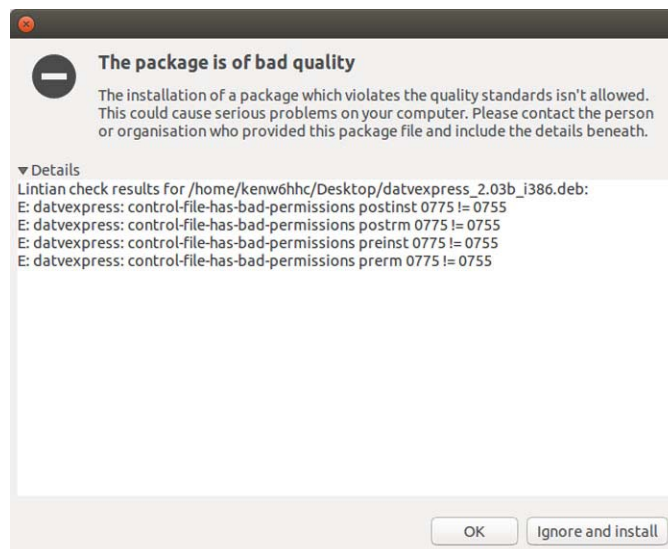

Figure 4 – The SOFTWARE CENTER will issue this warning in Ubuntu 14.04 LTS when trying to install DATV-Express. This warning can be ignored.
- **NOTE 3 – The newer ubuntu 14.04 LTS debian installer issues a WARNING message shown in Figure 4 when trying to install DATV-Express. Just press the “Ignore and Install” button. It appears that the Debrete build tool has a bug in it...and is issuing a “false warning”.**